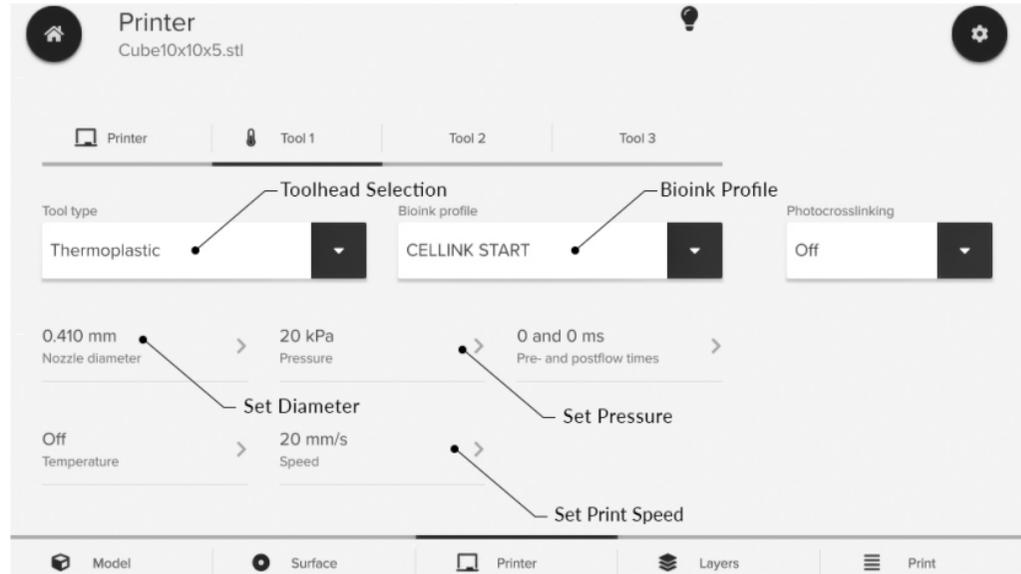

Figure 14: Printing parameters to set on the Printer menu.
7. Ensure that Thermoplastic is selected under Tool type. Enter the printing parameters for the printhead (Figure 14). Proceed to the Layers menu. Parameters necessary for the Thermoplastic Printhead include: